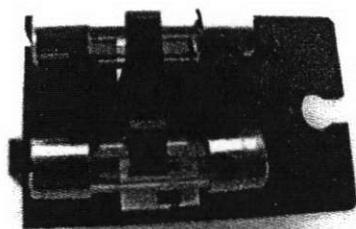

Figure 4
8.2.4. Replace the blown fuse(s) in the holder as show in Figure 4. The replacement fuse must be the value and type identified in the Section 7, Technical Data.